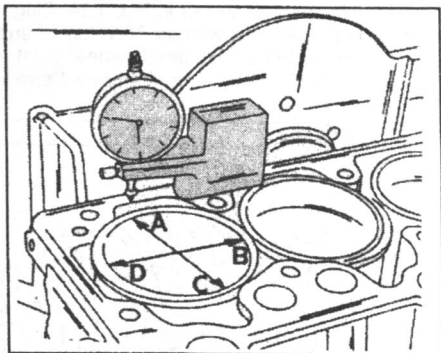
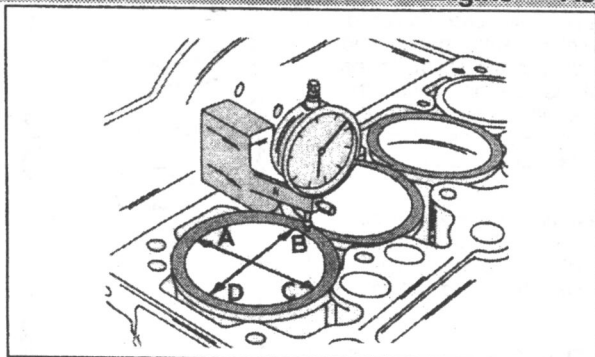

Fig. 1.25. — Place the dial gauge with a suitable block onto the cylinder block face. The stylus is placed in turn over points A to D.
Fig. 1.26. — Second stage to check the cylinder liner protrusion. The dial gauge stylus is now placed over the shoulder of each liner, at points A to D.
- Measure the protrusion of each liner as shown in Fig. 1.25, using the gauge shown. First place the stylus at points A to D against the cylinder block face and write down each dimension. Then place the stylus against the edge of the liner at positions A to D in Fig. 1.26, again writing down the dimension. Compare the value obtained for each point